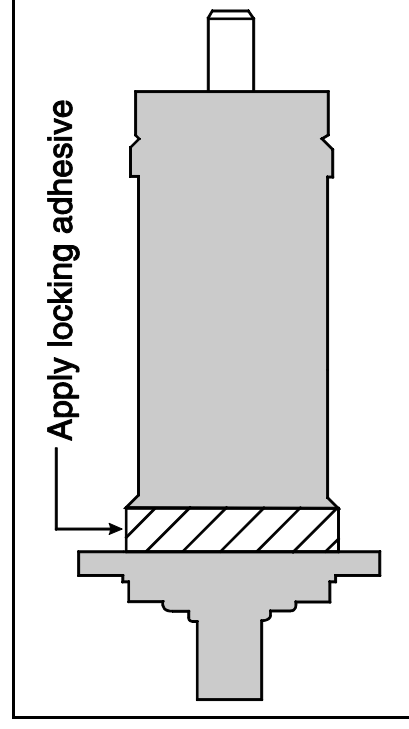

FIGURE 1 (MSSM0230AE)
2. Install the bearing housing, using Loctite 271 (or equivalent) on inner seat as shown in FIGURE 1. Position the two bearing support tap strips, then install the rear reinforcing plate and bearing support strips. Install bearing housing bolts and lockstraps.